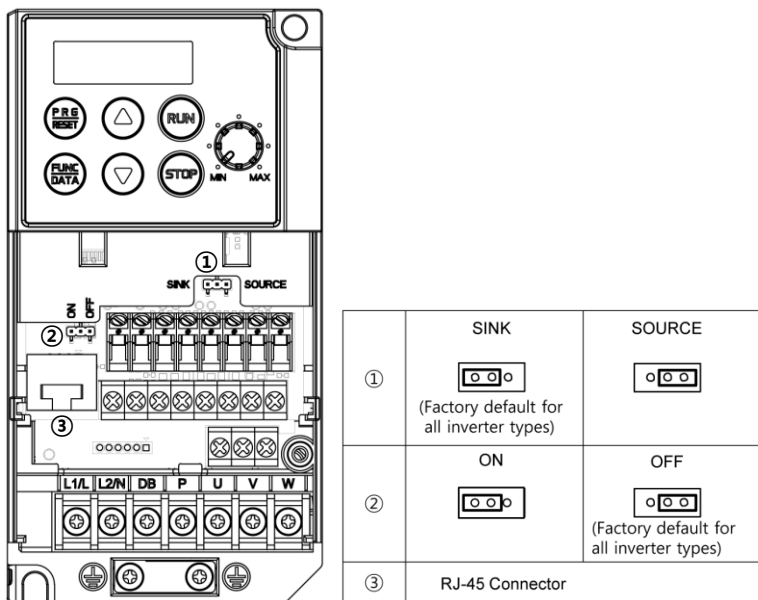

Figure 2.11 Locations of Jumper Switches and RJ-45 Connector
Switching the jumper switches (shown in Figure 2.11) allows you to customize the specifications of the digital I/O terminals and the RS-485 communication terminating resistor.
① SW10	<p>SINK/SOURCE switch for digital input terminals</p> <ul style="list-style-type: none">• To use digital input terminals [X1] to [X3], [FWD] and [REV] in the SINK mode, set a jumper in the sink position, to use them in the SOURCE mode, set a jumper in the source position. (See Figure 2.11.)• To switch between SINK and SOURCE modes, use a mini needle-nose pliers or the similar tool to change the mounting position of the jumper.
② SW9	<p>Terminating resistor ON/OFF switch for RS-485 communication</p> <ul style="list-style-type: none">• To connect an optional remote keypad, set a jumper in the OFF position (factory default).• If the inverter is connected to the RS-485 communications network as a terminating device, set a jumper in the ON position.• To switch the terminating resistor ON and OFF, use a mini needle-nose pliers or the similar tool to change the mounting position of the jumper.
Figure 2.11 shows the locations of jumper switches and the RJ-45 connector.